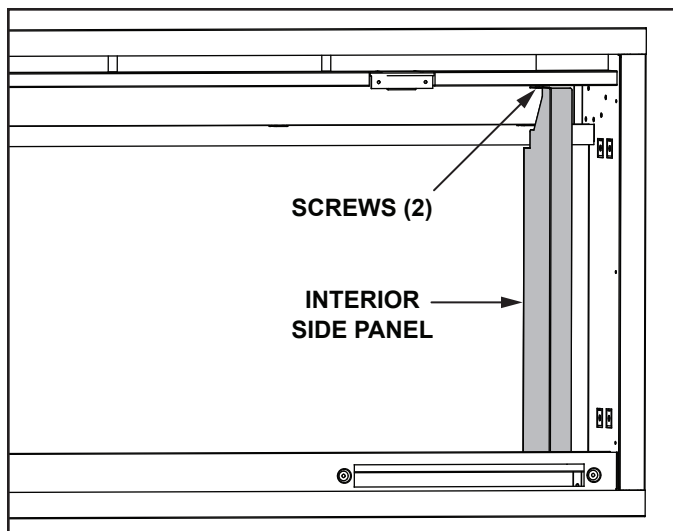

Figure 4.5 Interior Side Panel Removal
3. Remove interior side panels on left and right of the appliance by removing two (2) screws. See Figure 4.5.